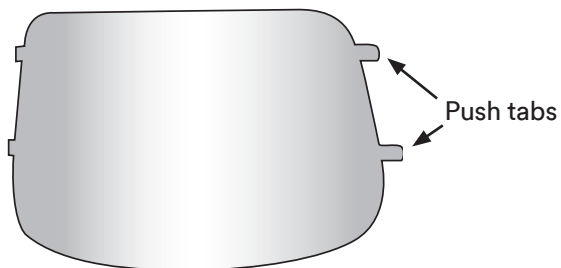

Fig. 12b
- b. While looking at the front of the welding helmet, push out on the grinding visor tabs located on the right side to remove the clear visor (Fig. 12b).